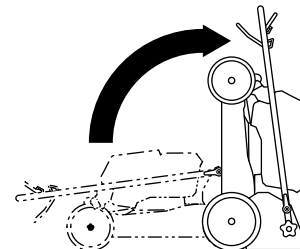

Figure 16
5. Lift the front of the machine by the handle and move it into a storage space (Figure 16).